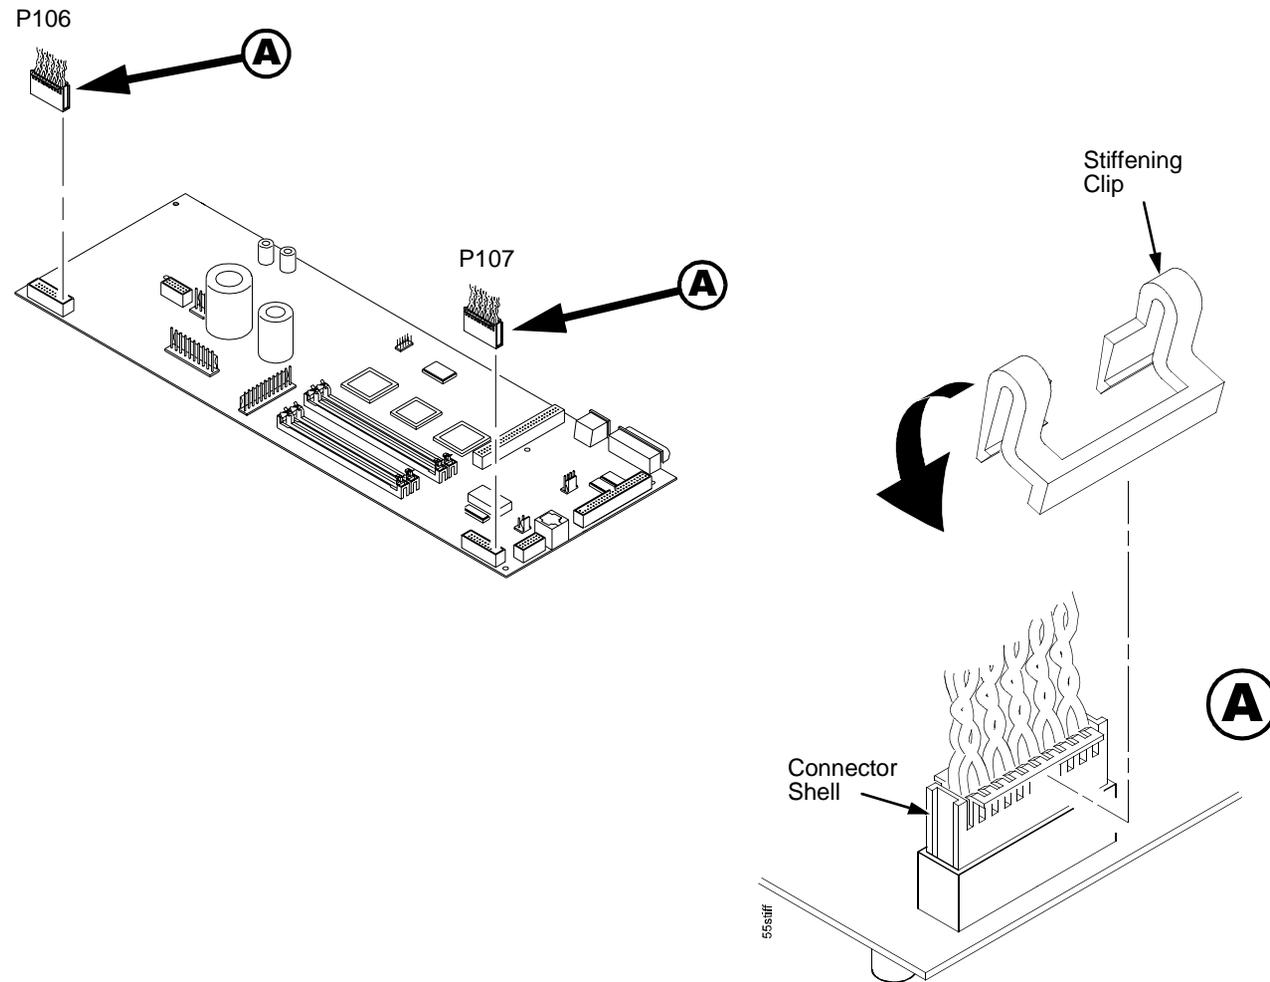

Figure 15. Connector Stiffening Clips
3. Unsnap the front (open side) of the clip from the connector shell, release the back of the clip from the lip of connector shell P107, and work the stiffening clip off the cable bundle. (See Figure 15.)
3. Work the stiffening clip over the cable bundle, engage the back of the clip under the lip of connector shell P107, then snap the front (open side) of the clip down over the connector shell. (See Figure 15.)